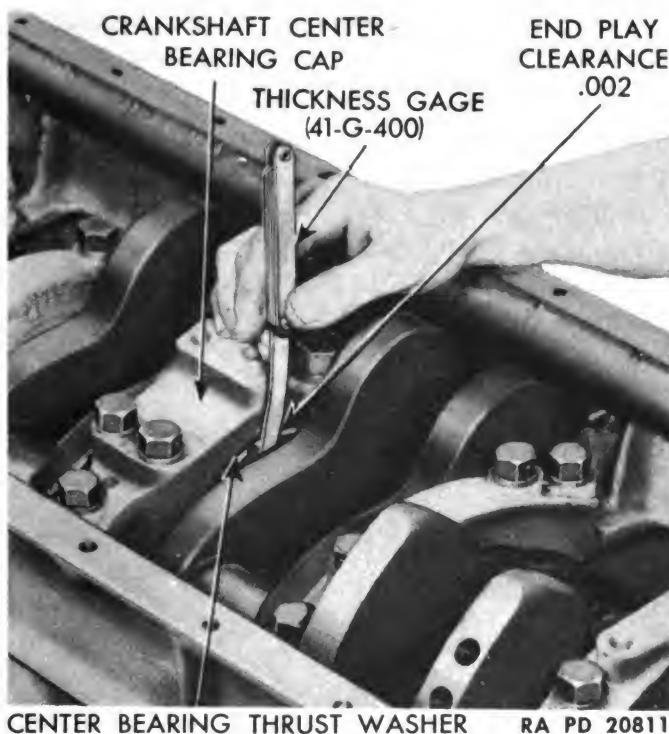

Figure 79 — Measuring Clearance at Center Main Bearing Thrust Washer with Thickness Gage
- a. **Install Crankshaft.** Place crankcase upside down in engine stand. Assemble upper half of a new crankshaft rear bearing oil seal at rear bearing (fig. 77), coating crankcase contact side of seal with joint and thread compound. Fasten seal firmly in place with five screws and copper washers. Coat crankshaft contact edge of seal with graphite grease. Install upper halves of crankshaft bearings in crankcase, with tang of bearing fitted into slot at bearing parting line (fig. 40). *NOTE: Upper bearing halves are drilled for oil, whereas lower halves are not.* Lubricate bearings with engine oil. Install front bearing bronze thrust washer, lubricated with graphite grease, on front journal of crankshaft. Carefully lower crankshaft into place on upper bearings with flange end to the rear of crankcase (fig. 39). Install lower bearing halves in bearing caps, and lubricate with engine oil. Assemble all but the center bearing cap in place. Bearing caps are numbered from 1 to 7, starting at front end of crankcase, and should be assembled in proper order. Bearing caps cannot be replaced. Install bearing cap screws with plain washers, and tighten with torque wrench to 100 to 110 foot-pounds. Install thrust washer with shims on center bearing cap retaining pins (fig. 78). Use same number of shims that were removed at disassembly. After tightening center bearing cap screws, force crankshaft forward, so that front thrust flange is tight against front bearing thrust washer. Using a thickness gage (41-G-400), measure clearance at center bearing thrust washer (fig. 79). Clearance should be 0.002 inch. If clearance is more than 0.002 inch, add shims behind thrust plate. If clearance is less than 0.002 inch,